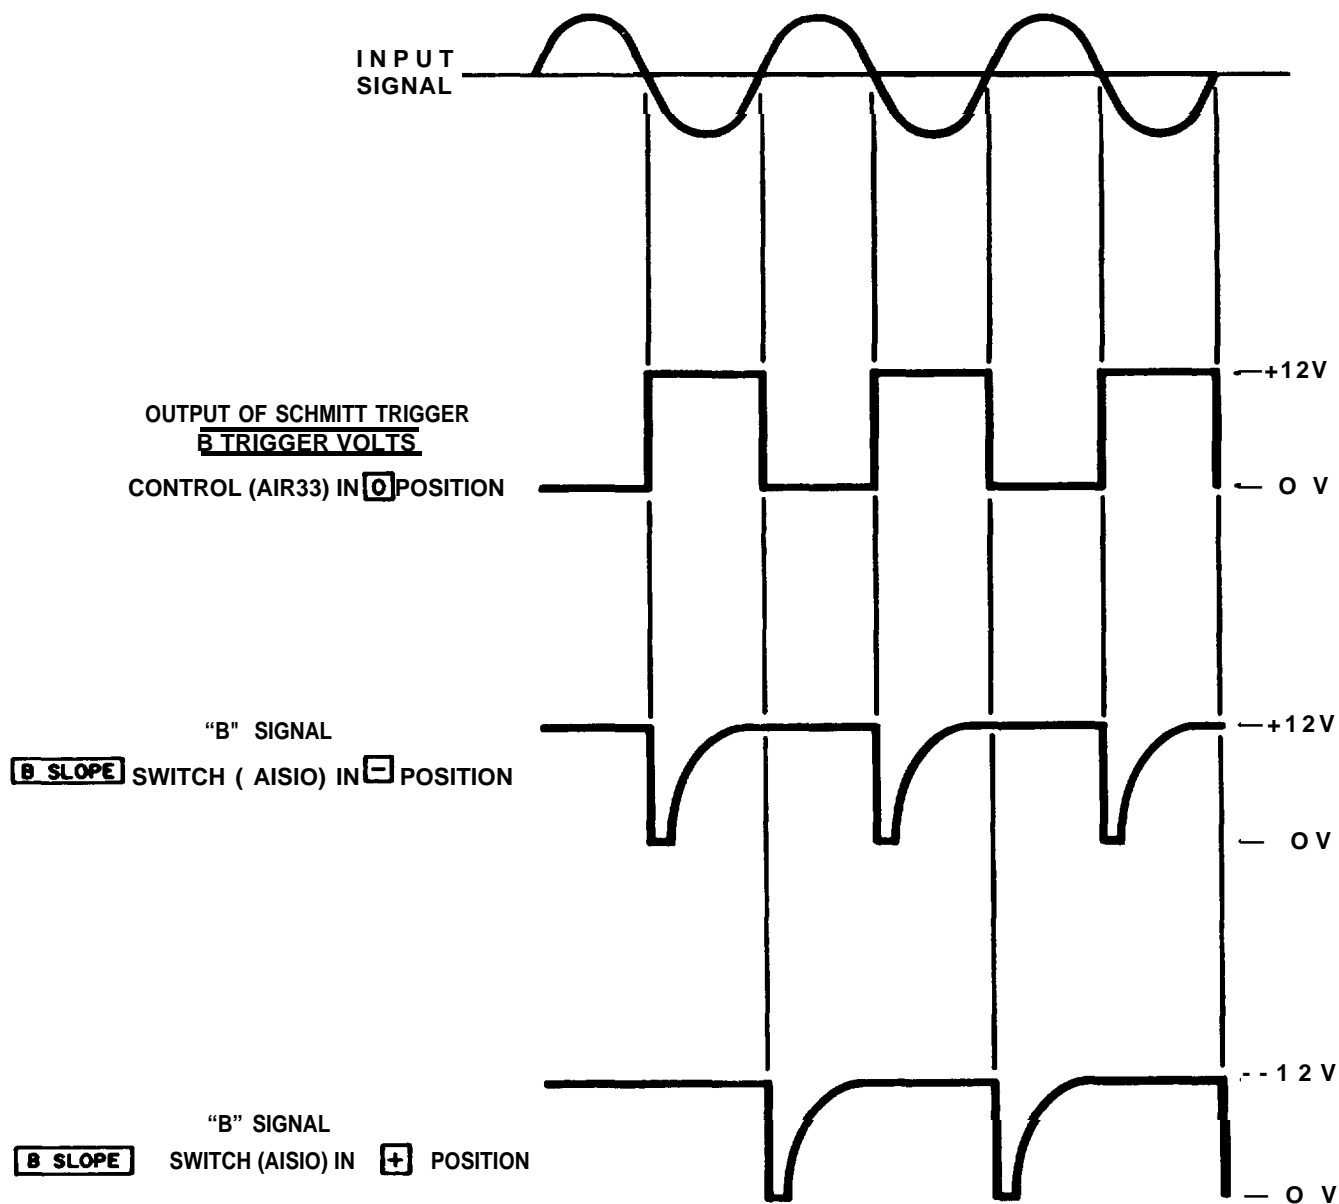

Figure 4-7. "B" Amplifier, Trigger Point Waveforms
The output of the Schmitt trigger is applied to AND gate AG7 and to inverter INV5 consisting of A1A11Q7. The output of the inverter is applied to another AND gate, AG6. Both AND gates are controlled by the B SLOPE switch A1S10. When this switch is set to +, the output of the Schmitt trigger is capacity-coupled through AG7 to the output inverter INV8 consisting of A1A11Q8. When the B SLOPE switch is set to -, the output of INV5 is capacity-coupled through AG6 to INV8. The two AND gates and the B SLOPE switch have the effect of selecting either the positive or negative slope of the input waveform for ultimately triggering the output inverter. Figure 4-7 shows the relationships of the typical sine-wave input signal to the amplifier output for all variations of trigger level polarity and slope selection.
c. USEFUL ILLUSTRATIONS. — Illustrations useful in maintaining this functional section are: figures 4-7, 4-8, 5-8, 5-9, 5-11, 5-47, and 5-64.
A1A11Q15. The output of the inverter is applied to another AND gate, AG14. Both AND gates are controlled by the C SLOPE switch A1S12. When this switch is set to +, the output of the Schmitt trigger is capacity-coupled through AG15 to the output inverter INV8 consisting of A1A11Q16. When the B SLOPE switch is set to -, the output of INV13 is capacity-coupled through AG14 to INV8. The two AND gates and the C SLOPE switch have the effect of selecting either the positive or negative slope of the input waveform for ultimately triggering the output inverter. The relationships of a typical sine-wave input signal to the amplifier output signal for all variations of trigger level polarity and slope selection are identical to those shown for the B amplifier in figure 4-7.